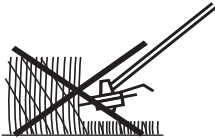

Fig. 17c
8. Trim longer grass in stages, do not cut long grass in one cut. For the best results, cut longer grass in steps. (See Fig. 17c, 17d)